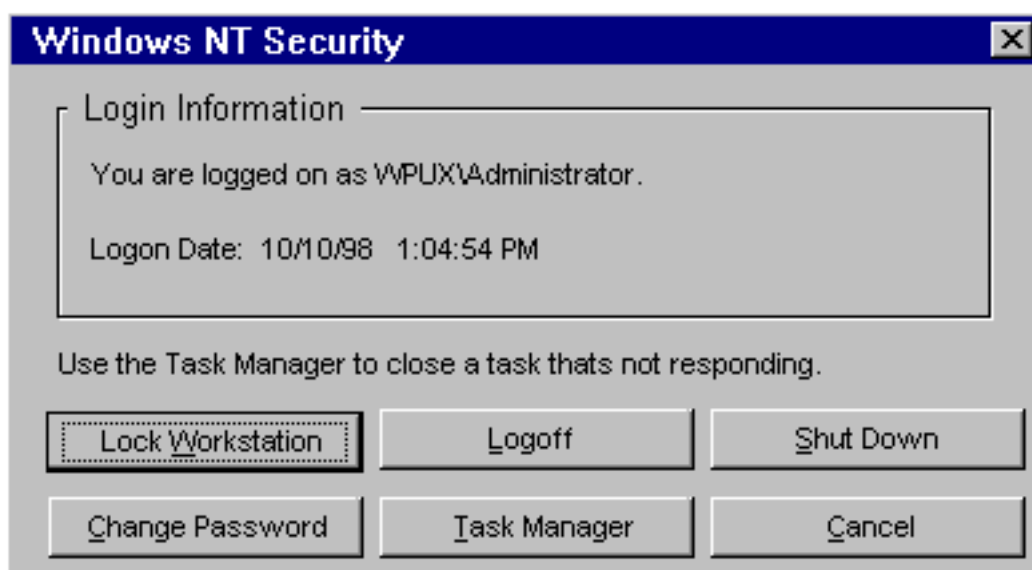

FIGURE 24. Windows NT Security Dialog Box
8.30 Press CTRL+ALT+DEL to display the Windows NT Security dialog box as shown in Figure 24.